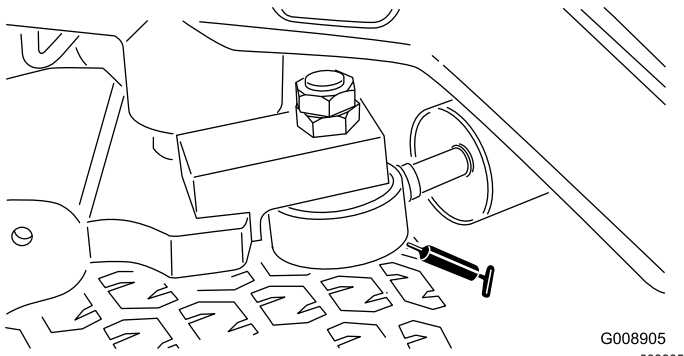

Figure 48
**Note:** If desired, an additional grease fitting may be installed in the other end of the steering cylinder. Remove the tire, install the fitting, grease the fitting, remove the fitting, and install the plug (Figure 48).